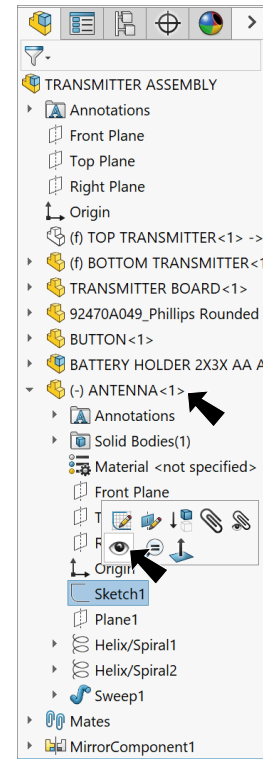

Fig. 37
Step 1. **Show Sketch1**  in the **Antenna**  part. To Show, expand **Antenna** in the **Feature Manager**. Click **Sketch1**  and **Show**  on the context toolbar, **Fig. 37**.